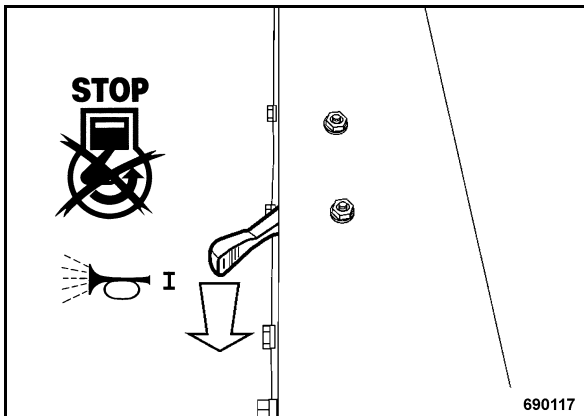

Fig. 33
- Set the throttle lever (Fig. 33) to position "STOP".